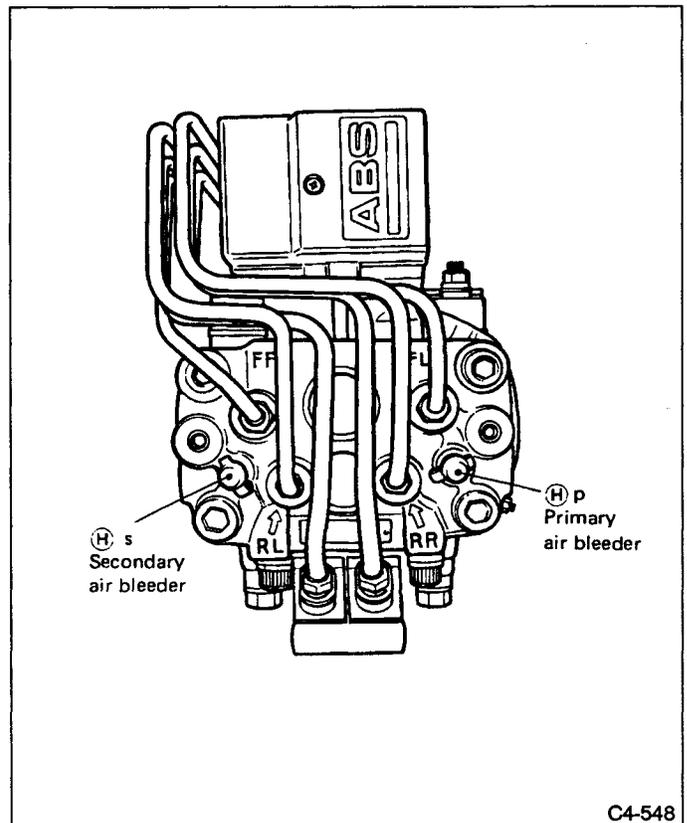

Fig. 124 Hydraulic unit
- 5) Bleed air from brake system in numerical sequence shown in Figure 124 and 125 using above steps as a guide.